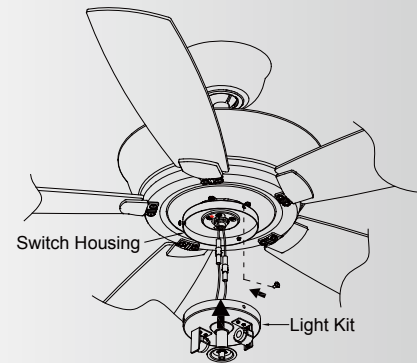

Fig. 23
Step 2. Tuck the connections neatly into the light kit. Align the slot holes on the light kit and switch housing. Rotate the light kit until it locks in place at the narrow end of the key holes. Securely by tightening the 2 screws previously loosened and the one previously removed. (Fig. 23)